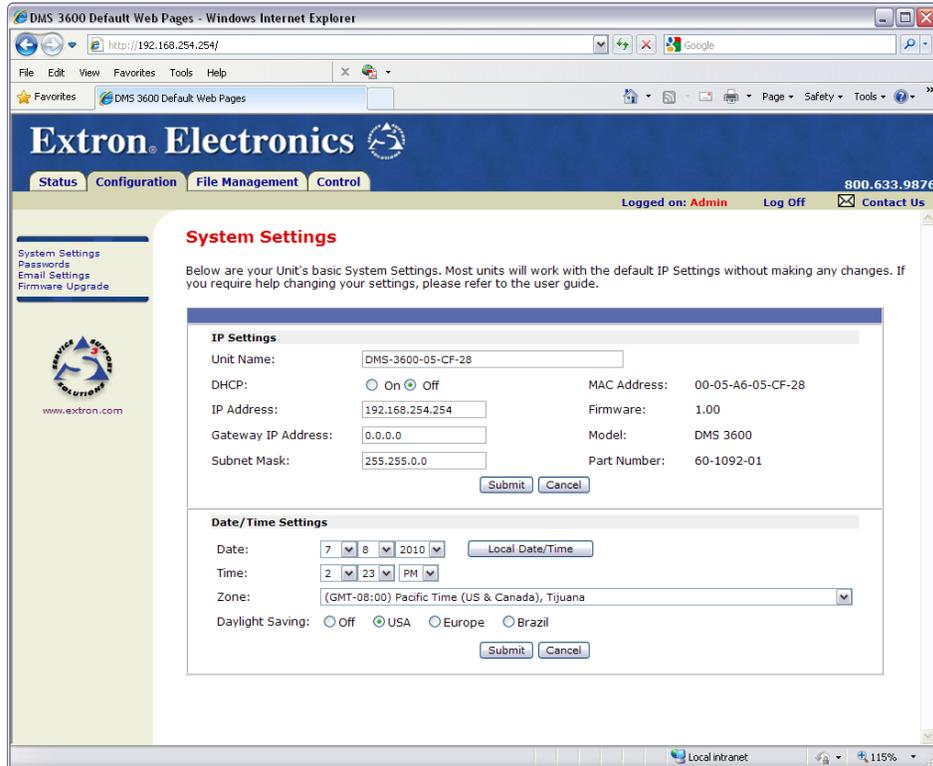

Figure 59. System Settings Page
The DMS matrix switcher downloads the **System Settings** page (see figure 59) when you click the **Configuration** tab. The screen consists of fields in which you can view and edit IP administration and system settings (see **Ethernet Connection** on page 108 for basic information about IP addresses and subnetting).
1. Click the drop box for the desired variable. The adjustable variables are month, day, year, hours, minutes, AM/PM, and (time) zone. A drop-down scroll box opens (the year drop box is selected in figure 59).